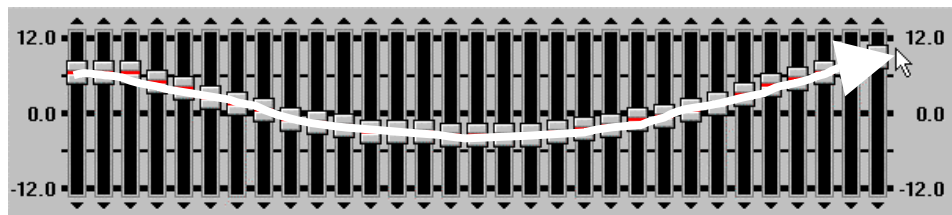

Fig. GEQ-2: Completing Consecutive Level Setting
- (2) Press the **Ctrl** key on the keyboard, and while keeping it pressed, press the mouse left button.
- (3) With the buttons kept pressed on both the keyboard and the mouse, move the mouse towards the right. At every slider, the knob automatically moves to the position where the pointer crosses the slide groove.
- (4) Release the **Ctrl** key and the mouse left button when the pointer reaches the 20kHz band (or the last band you want to set). Operation is now complete. (See Fig. GEQ-2.)